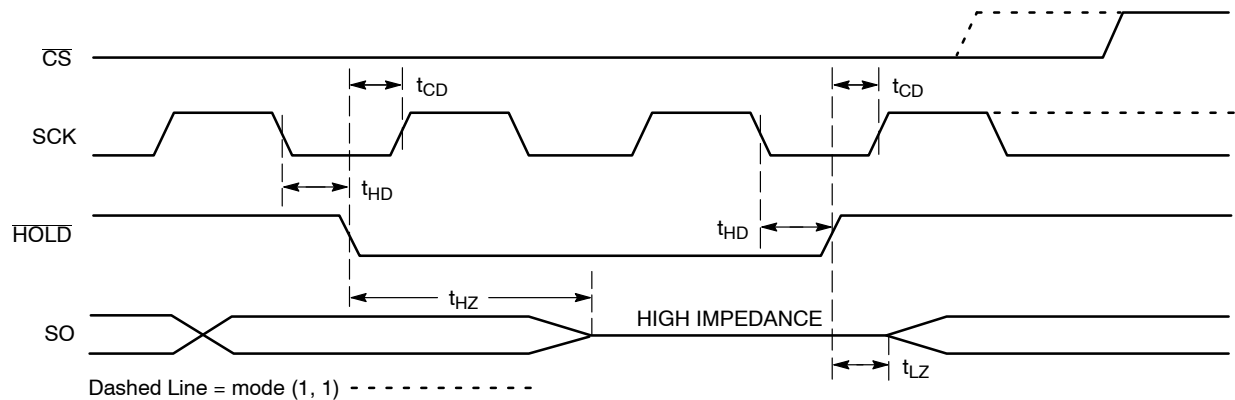

Figure 11.  $\overline{\text{HOLD}}$  Timing
The  $\overline{\text{HOLD}}$  input can be used to pause communication between host and CAV25128. To pause,  $\overline{\text{HOLD}}$  must be taken low while SCK is low (Figure 11). During the hold condition the device must remain selected ( $\overline{\text{CS}}$  low). During the pause, the data output pin (SO) is tri-stated (high impedance) and SI transitions are ignored. To resume communication,  $\overline{\text{HOLD}}$  must be taken high while SCK is low.